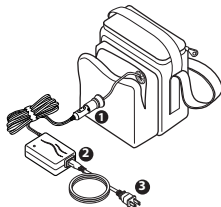

Figure 1: Charging the Battery
1. Connect the auto adapter end of the charger into the battery pack socket, located in the front pouch of the carrying case. See Figure 1.